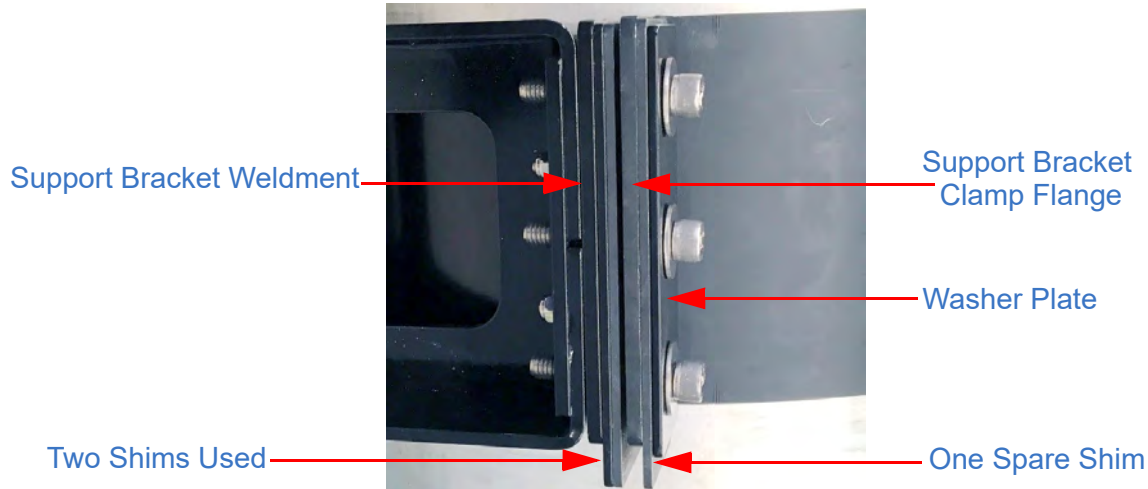

Figure 5-17 Shims Inserted (Shown with Two Shims Used and One Spare)
- f. Release the support bracket clamp and insert the estimated number of shims between the support bracket clamp and the support bracket weldment (Figure 5-17). Do not pull out on the support bracket clamp. If a shim does not easily fit between the support bracket clamp and support bracket weldment, that shim is not necessary, and should not be used. Any unused shims should be inserted between the support bracket clamp and the washer plate. The shims should be inserted so that the bottom of the shims hangs down below the bottom of the support bracket clamp.